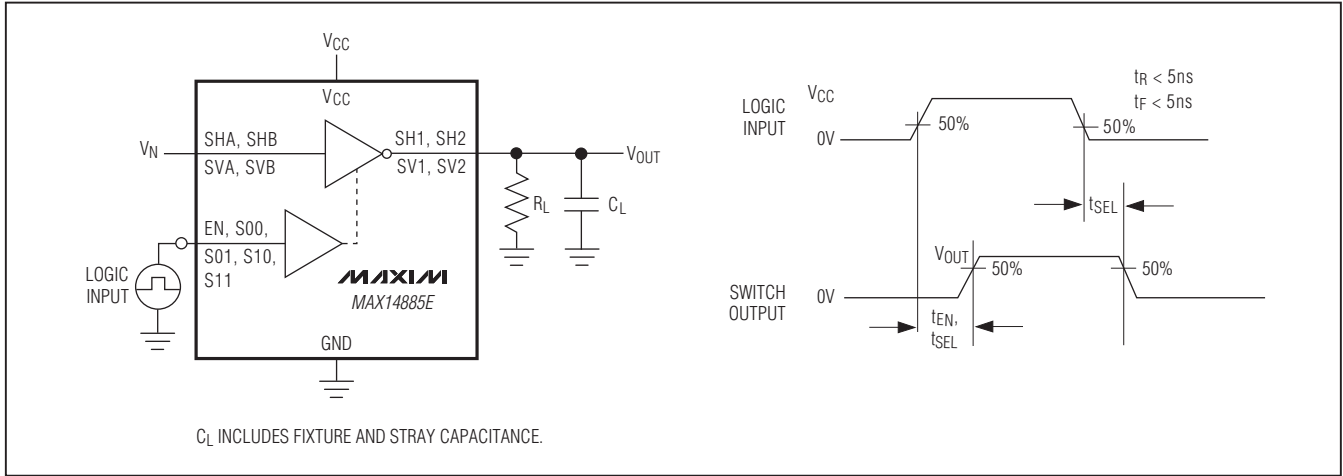

Figure 1. Enable/Select Time
| Enable Time  | $t_{EN}$   | $R_L = 2.2k\Omega$ , $C_L = 10pF$ , Figure 1 (EN)  |                   | 1        |                   | $\mu s$   |
| Select Time  | $t_{SEL}$  | $R_L = 2.2k\Omega$ , $C_L = 10pF$ , Figure 1 (S00, S01, S10, S11)  |                   | 1        |                   | $\mu s$   |